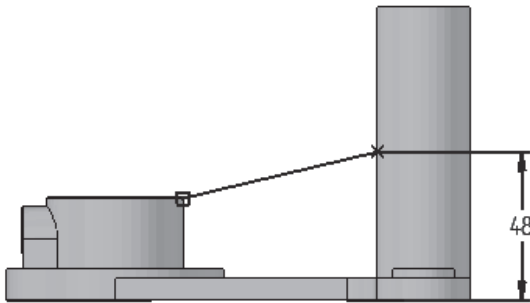

Figure 7-79 Profile for the rib feature
3. Draw a single line for the rib feature and add the required relationships and dimensions to it, as shown in Figure 7-79.